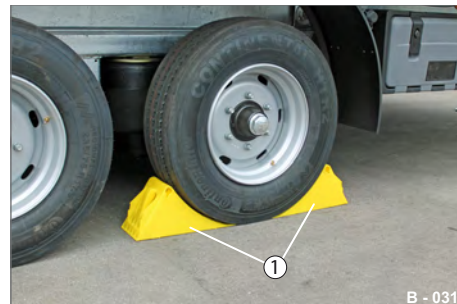

Fig. 36 Wheel chocks positioned
- If necessary, place the wheel chocks (Fig. 36/1) under the wheels of the fixed axle. The trailer has an additional safeguard against rolling away.